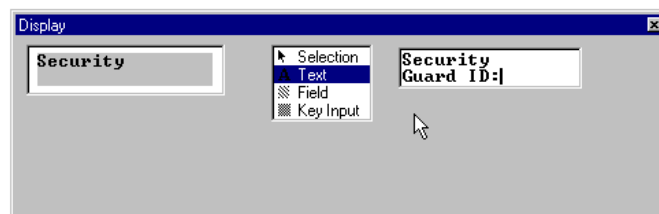

Figure 2-46 Display - Type Guard ID:
5. Type **Guard ID:** (Figure 2-46).